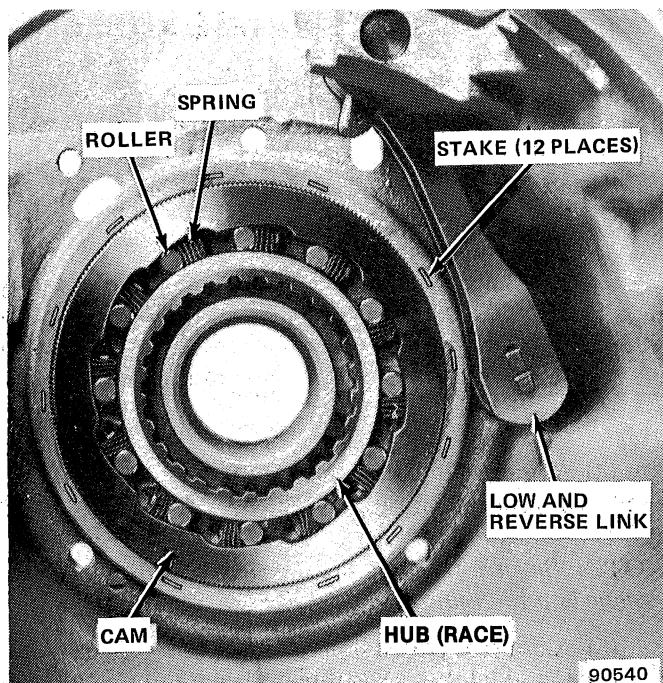

Fig. 2C-94 Overrunning Clutch and Rear Band Link
- (1) Place transmission case in upright position and install clutch cam and spring retainer.
- (2) Install clutch springs and rollers so springs rest against retainer post and rollers rest against springs, and with both springs and rollers installed on counter-clockwise side of spring retainer posts (fig. 2C-94).
- (1) Install servo piston assembly in case bore with twisting motion.
- (2) Place spring retainer and snap ring over piston (fig. 2C-93).
- (3) Compress piston spring by hand and install snap ring.